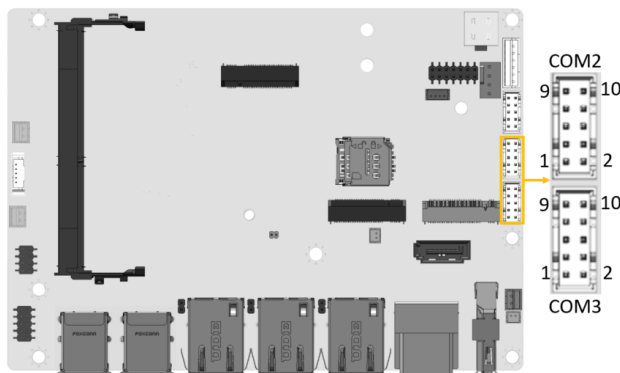

Figure 4-15: RS-232/422/485 Connector Location
- CN Location:** See **Figure 4-15**